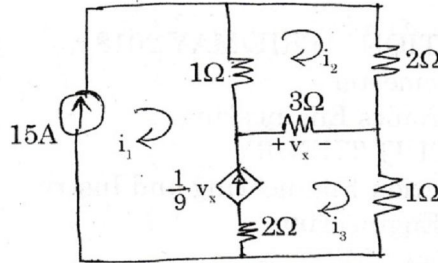

Fig. Q. 11. a)
11. a) Apply mesh analysis to the circuit shown in Fig. Q. 11. a) and find voltage across the dependent source.